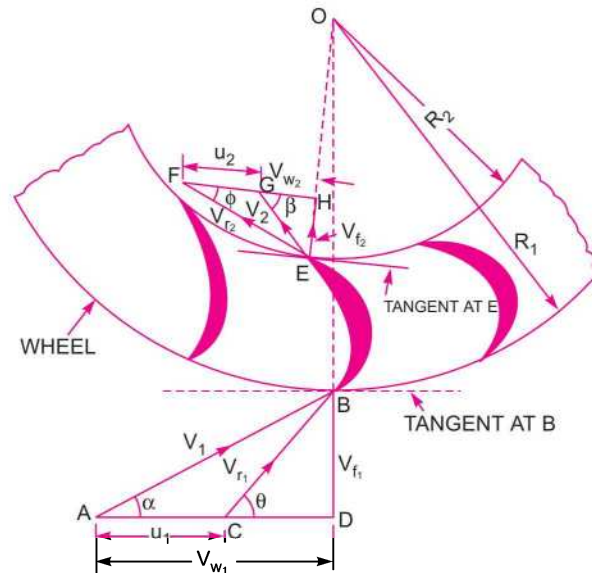

Fig. 17.23 Series of radial curved vanes mounted on a wheel.
**17.4.6 Force Exerted on a Series of Radial Curved Vanes.** For a radial curved vane, the radius of the vane at inlet and outlet is different and hence the tangential velocities of the radial vane at inlet and outlet will not be equal. Consider a series of radial curved vanes mounted on a wheel as shown in Fig. 17.23. The jet of water strikes the vanes and the wheel starts rotating at a constant angular speed.
The velocity triangles at inlet and outlet are drawn as shown in Fig. 17.23.
If the angle  $\beta$  in Fig. 17.23 is an obtuse angle then work done per second will be given as